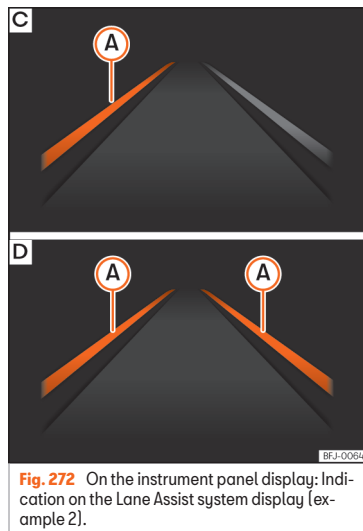

Fig. 272 On the instrument panel display: Indication on the Lane Assist system display [example 2].
- **Fig. 272 [C]:** The system is operational, the highlighted line (A) indicates that there was a risk of involuntarily crossing the lane line and that the steering is being adjusted to correct the angle.
- **Fig. 272 [D]:** The two highlighted lines (A) light up simultaneously when both lane lines are recognised and the Lane Assist function is activated.